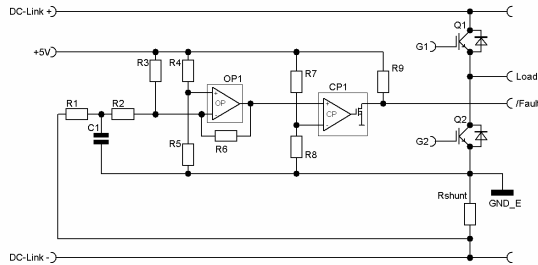
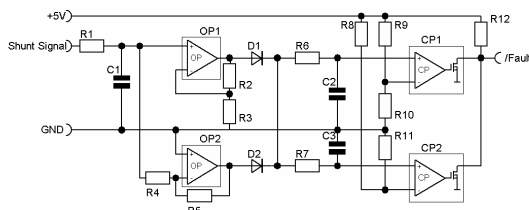
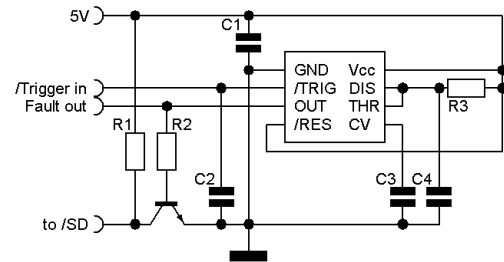

Figure 14: Positive OC/SC detection
Figure 15: Positive/Negative OC/SC detection
Figure 16: Fault Timer circuitry with LMC555
The integrated operational amplifier (OpAmp) and comparator are suitable to detect over- (OC) and/or short circuit current (SC). Figure 14 shows an example for open-emitter modules where in each half-bridge low-side a shunt resistor might be located. In case of a positive OC or SC the circuitry signals a fault if the
Another, more complex possibility would be combining the OpAmps and comparators of several driver IC's (for example in 3-phase converters with a shunt resistor placed in the negative DC-Link). Figure 15 shows an example where one comparator is detecting OC and the other SC events. The different assignment is basically defined by the time constants set by R6, C2 and R7, C3 respectively.
Last but not least the 2ED020112-F has a shutdown input, which enables or disables both the high and low side driver stages. This shutdown input could be controlled for instance by a fault timer circuitry as shown in Figure 16, which extends any trigger input signal to $t = R3 \cdot C4$. The input signal for pin "/Trigger in" could be provided, for example, from the circuitry shown in Figure 14 or Figure 15.